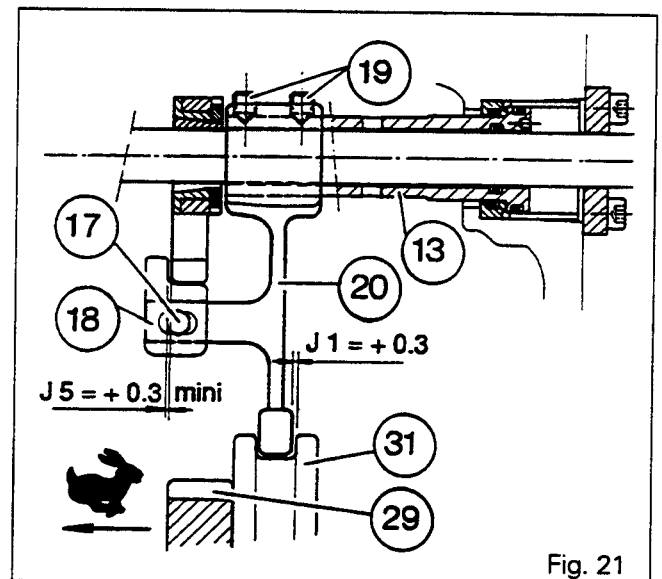
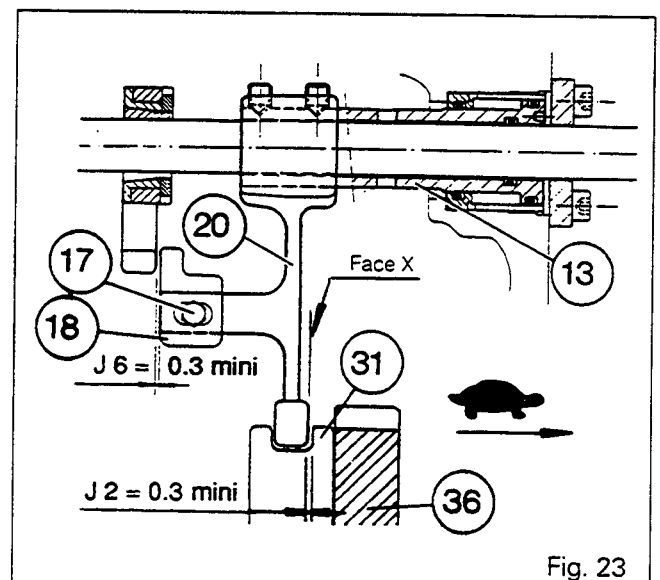

Fig. 21
Fig. 23
90. Position the control piston (13) and the slide rod (31) on the high range (Hare).
91. Keep the slide rod resting against the high range gear (29) (Fig. 21).
92. Adjust the position of the fork (20) by acting on the two adjusting screws (19), after cleaning them with a solvent and applying a light coating of Loctite 221, so as to obtain a play of  $J1 = 0.3 \text{ mm}$  between the rear face of the pad and the slide rod (Figures 21 and 22).
93. Position the control piston (13) and the slide rod (31) on the low range (Tortoise).
94. Check that there is a play of  $J2 = 0.3 \text{ minimum}$  (value determined by setting J1) between the pad and the slide rod when the slide rod is resting on the low range gear (36) (Fig. 23).
**Note: In the Tortoise position, if face X of the pad of the fork (20) is resting on the slide rod (Fig. 23), increase play J1.**
96. Slightly loosen the castellated nut (21). Apply a moderate coating of Loctite 270 on the threads of the cone (24).
- 101. Balance the plays, **J5** and **J6 (min. = 0.3 mm)**, between the slider and the latch in the Hare and Tortoise positions (Figures 21, 23, 27 and 28).